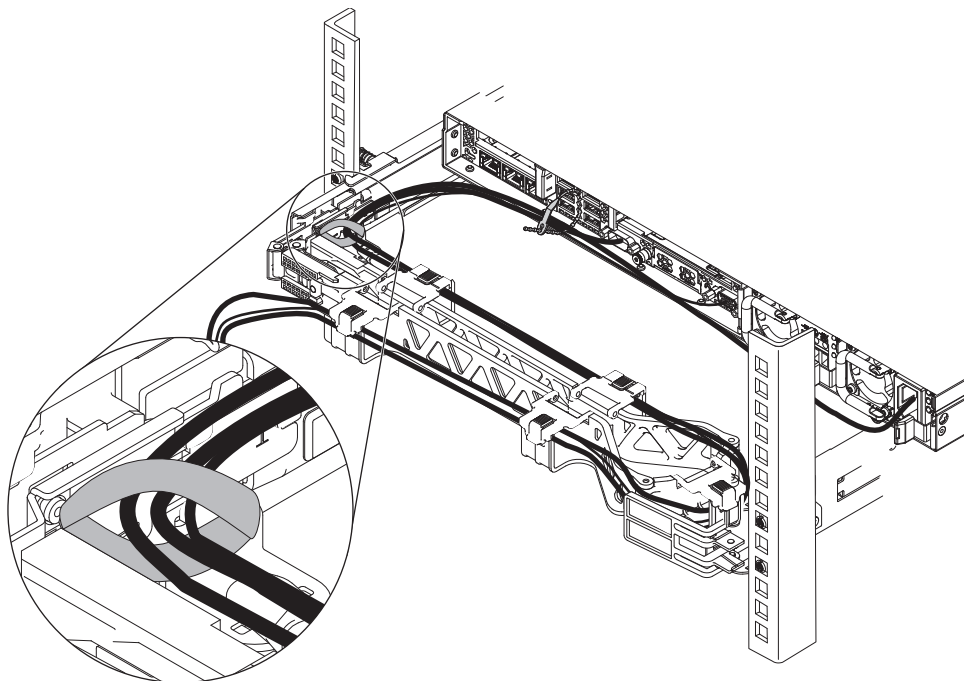

Figure 10. Detaching the hook-and-loop fastener strap
3. Detach the hook-and-loop fastener strap, as shown in Figure 10.